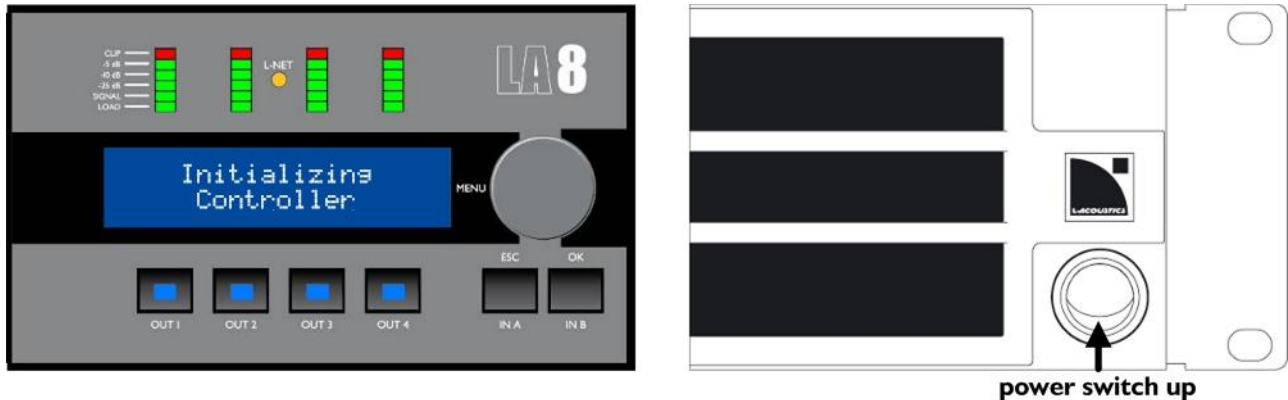

Figure 13: Start-up sequence
- ▶ Press the power switch up to power the LA8 on (see Figure 13).